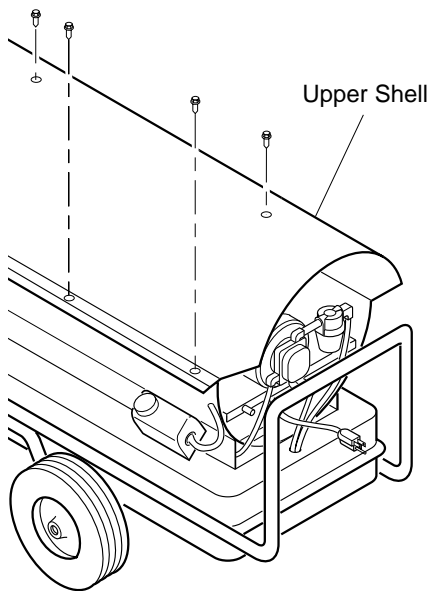

Figure 5 - Upper Shell Removal, 600,000 Btu/Hr Model
1. Remove screws along each side and top of heater using 5/16" nut-driver. These screws attach upper and lower shells together (see Figure 5).